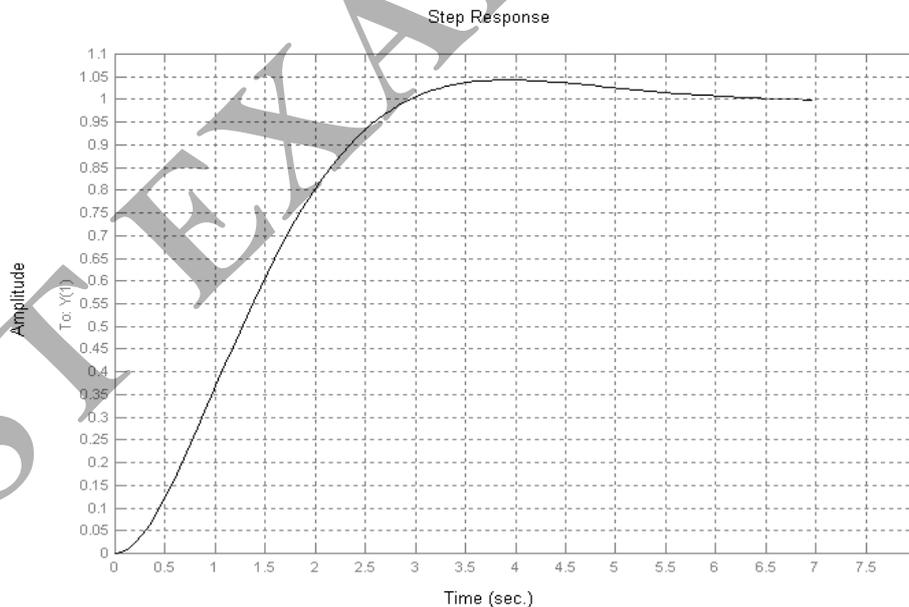

Figure 6
- c) The relationship between the input signal to a radio telescope dish and the direction in which it points is a second-order system. Figure 6 shows the output of the system which subjects to a step input.